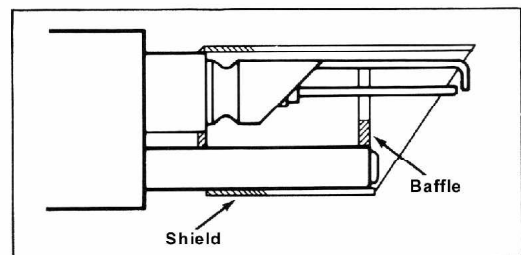

Figure 6 Oil lighter shield
D. Shield is burned or missing.	Replace with new design shield having a baffle plate. See Figure 6.